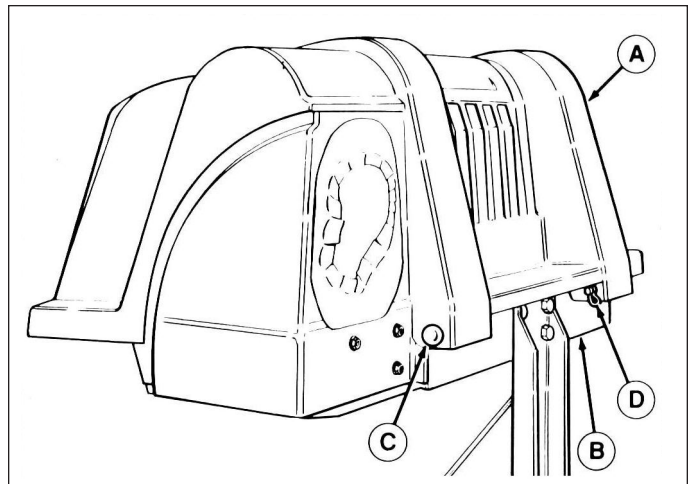

Figure 15.
3. Reinstall grass catcher cover (A, figure 15) to support (B) and secure with clevis pins (C) and clips (D).